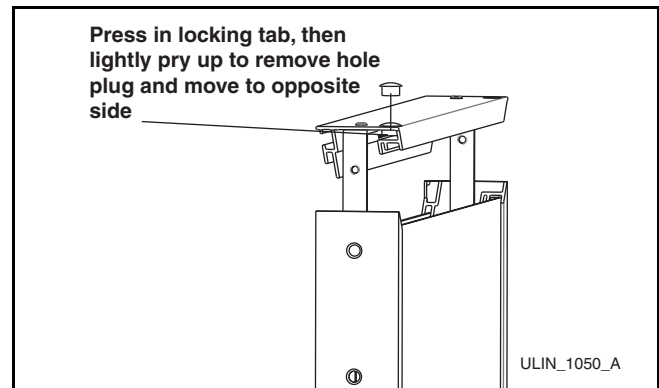

Figure 22
9. Remove plastic hole plug (**Figure 22**) from door handle and relocate on opposite side. Lift the handle slightly and press on the locking tab, then gently pry the hole plug out of the hole being careful not scratch the top cap.